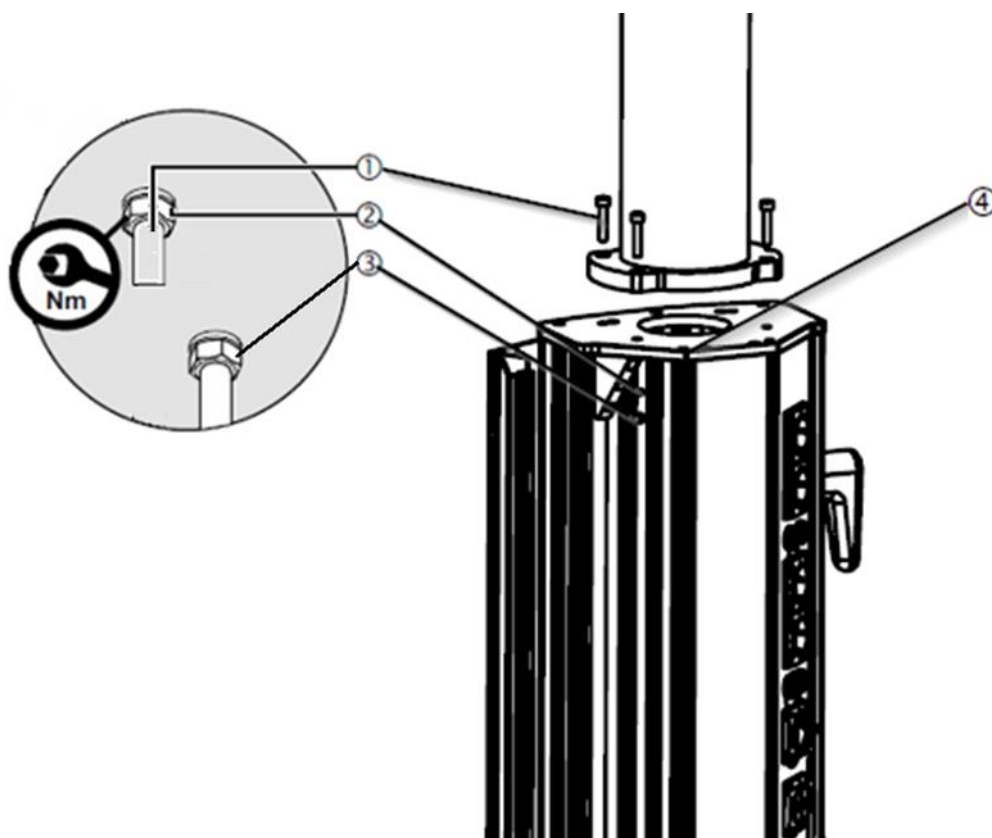

Fig. 38 Mounting the service head on the drop tube.
- Open one of the side covers of the service head ① by removing the M4x16 socket head cap screws ④ at the top and bottom. The side cover can now be opened as shown in figure 38, revealing the inside of the service head.
- Fit the 4 M8 socket head cap screws ① into the 4 recesses provided on the top of the service head.
- For each M8 socket head cap screw ①, place 1 S10 lock washer ② (as illustrated in Figure 38) so that the flat washer is seated between the upper seal of the service head (on the inside) and the corresponding hexagon nut ③.